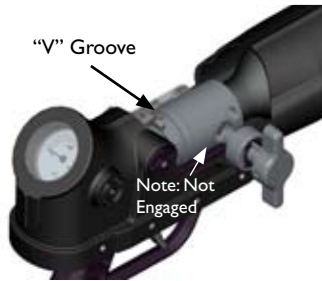
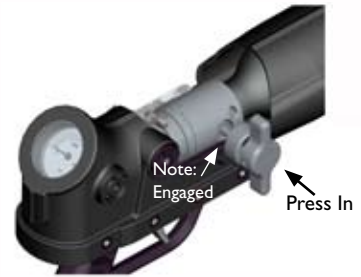

Figure 14a - Valve Key Not Engaged.
Figure 14b - Valve Key Engaged.
The Valve in the Nozzle of each Projectile is intended to be opened using the Valve Key attached to the Launcher Housing. The “V” groove on the Nozzle Protector properly aligns the Nozzle Valve with the Valve Key. The Valve Key is not engaged with the Nozzle Valve when fully extended (Fig. 14a). The Valve Key is engaged with the Nozzle Valve when fully depressed. (Fig. 14b)
1. Press valve key all the way in while in vertical position so that the valve key makes contact with the nozzle valve. **Maintain constant pressure.** (Fig. 14b - Step 1)
5. Release the Valve Key allowing it to extend fully (see Fig. 14a-- above)